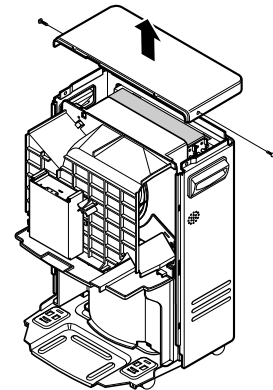

Figure 10
4. Separate the top cover. (See Figure 10)